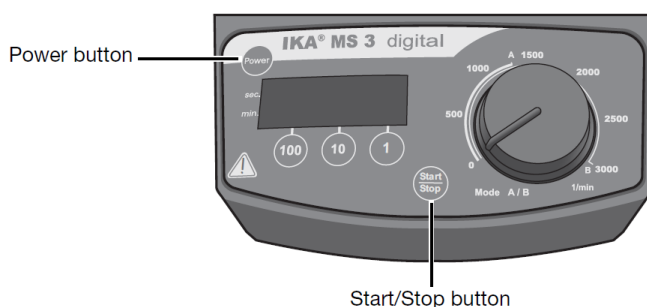

Figure 11 Front panel of the vortexer
2. Set the vortexer to Mode B—Hold down the **Start/Stop** button, then press **Power** (see Figure 11).